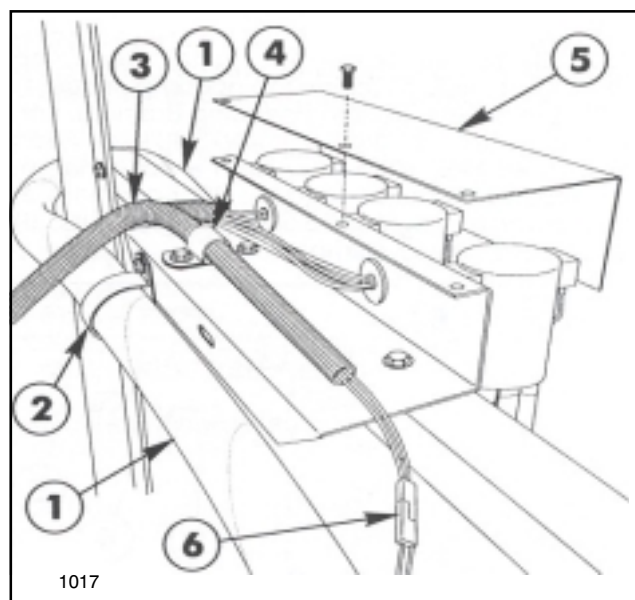

Figure 8
21. Attach the other end of the Supply Hose to the hose barb in Tee at the Solenoid Assembly. Secure with two hose clamps, one clamp at 1/4" and the other clamp at 1-1/4" from the hose barb hex. (See FIG. 8 & 9)
22. Secure the Supply Hose to the Solenoid Assembly using a large "R" clamp. (See FIG. 8)
23. Route wiring harness across rear of vehicle and secure to Solenoid Assembly with a small "R" clamp. (See FIG. 8)
24. Connect the plug on the wiring harness to the mating plug from the Hydraulic Control Valve. Then make connections to the four solenoid valves as shown in FIG. 8 & 9.
26. Install Solenoid Valve Shield to top of Solenoid Mounting Bracket using two (2) 1/4 x 3/8" flange screws. (See FIG. 8)